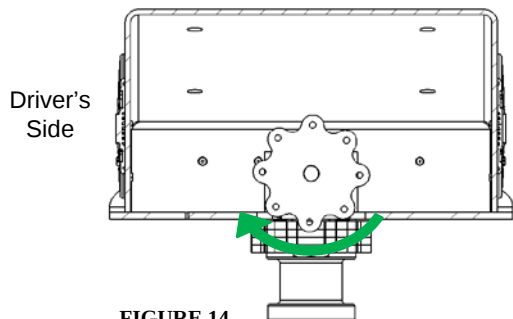

FIGURE 14
7. Tighten wedge fitment by scrolling the handle underneath the pinbox towards driver's side (Figure 14). Hand tighten only.